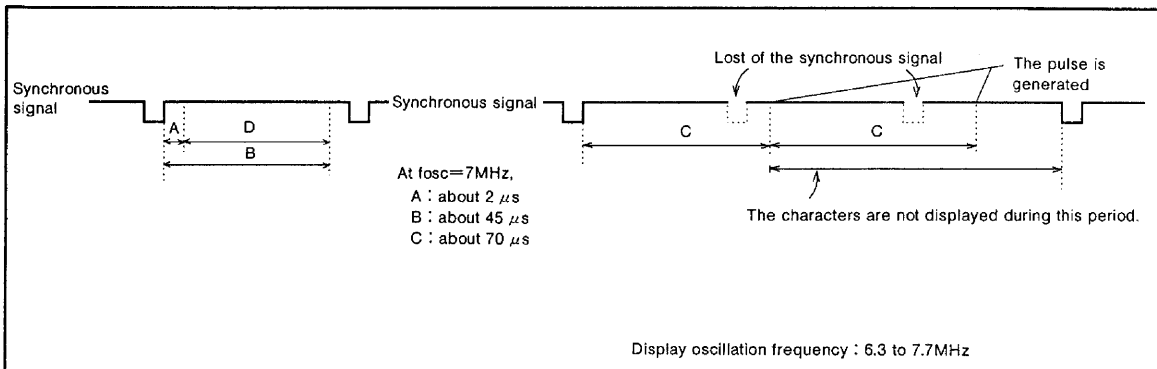

Fig. 12 Example of time base function
- (1) Time base 0—TBASE0 (DA6 of address  $F1_{16}$ )="1".
- Cut-off a noise during D period of Figure 12.
- (2) Time base 1—TBASE1 (DA7 of address  $F1_{16}$ )="1".
- Generate the pulse if the synchronous signal has not input during C period of Figure 12. And stop to display the character till the next synchronous signal is input.